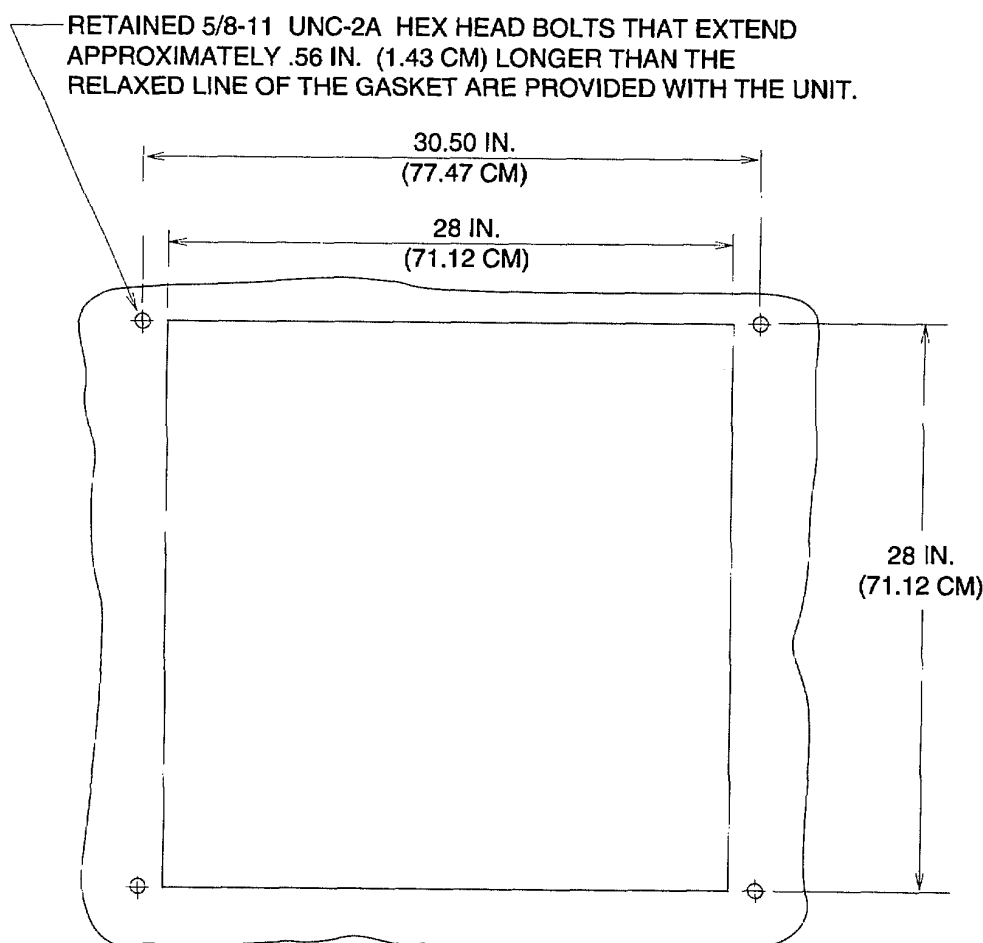

Figure 4-1. Wall Opening Dimensions
- b. Refrigerator Enclosure Preparation. The refrigerator enclosure must have an opening 30.50 in (77.47 cm) wide and 28.00 in (71.12 cm) high (fig. 4-1) to insert the refrigeration unit. If an opening does not already exist in the enclosure, see the enclosure manual for information on making such an opening.